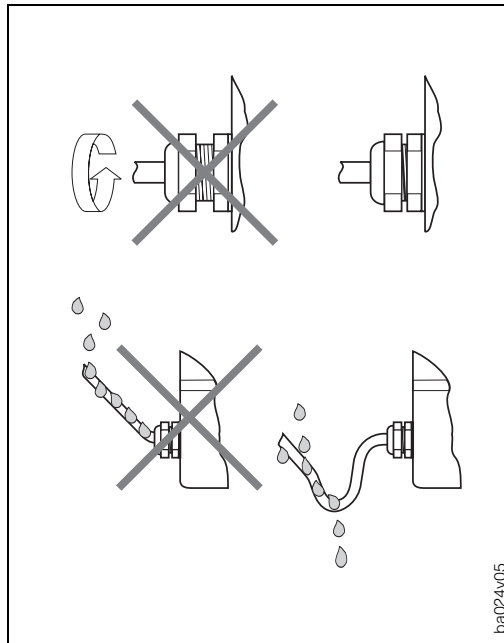

Fig. 5
- The cable gland must be firmly tightened (see Fig. 5).
- The cable must loop down before entering the cable gland to ensure that no moisture can enter it (see Fig. 5).